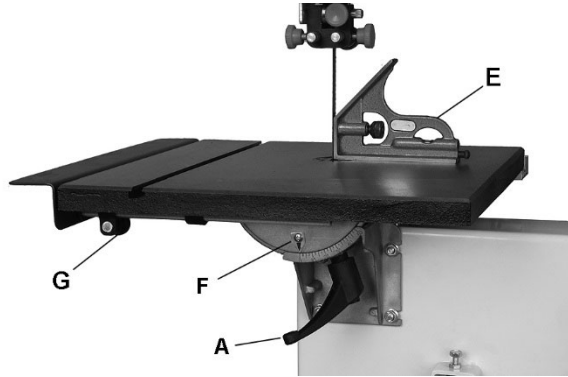

Figure 10
3. Use a square (E, Figure 10) placed on the table and against the blade, to verify that table is 90° to blade.
2. Confirm that table tilt indicator (F, Figure 10) points to zero.
3. Loosen lock knob (G, Figure 10) and pull extension (H, Figure 10) away from table.